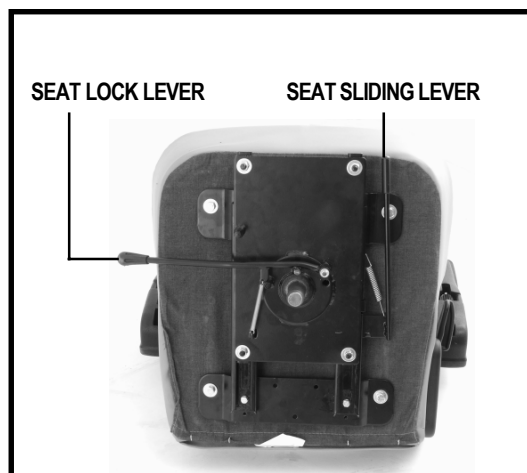

Figure 10. Seat Adjustment
1. Push forward on the seat lock lever to unlock the seat. See figure 10.
You can reposition the scooter's seat forward or rearward to adjust the distance between the seat and the tiller. See figure 10.